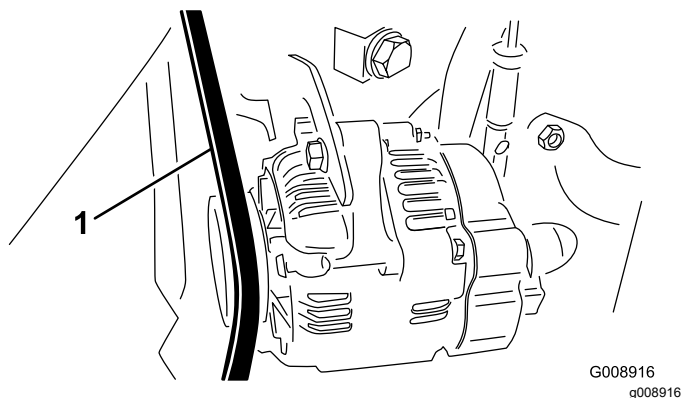

Figure 71
2. Check the tension by depressing the alternator/fan belt midway between the alternator and crankshaft pulleys with 30 N·m (22 ft-lb) of force (Figure 71).